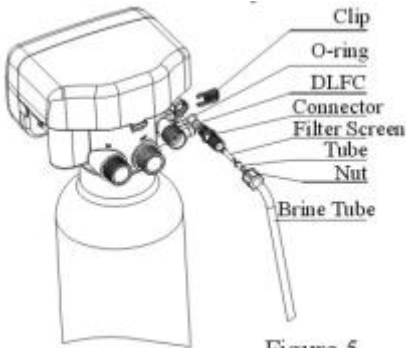

Figure 5
⑤ **Connect brine tube**
a. As Figure 5 shows, slide 3/8" brine tube hose connector over end of brine tube.